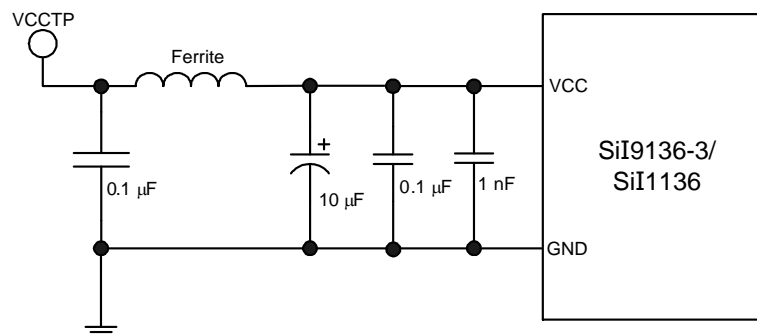

Figure 4.1. VCCTP Test Point for VCC Noise Tolerance
***Note:** The supply voltage noise is measured at test point VCCTP. See Figure 4.1. The ferrite bead provides filtering of power supply noise. The figure is representative and applies to the IOVCC33, CVCC12, and AVCC pins.